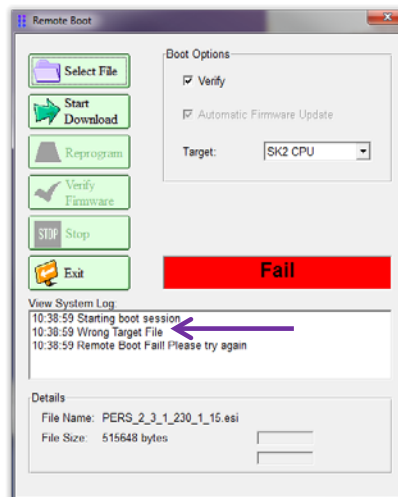

Figure 98: Wrong ESI File
- Click . The application verifies that the **.esi** file is the file for the target device. If the file is not for the target device, the download process aborts and an error message appears, as in Figure 98.